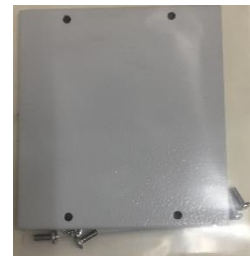

Figure 14
3. Attach the cover (**Figure 14**) to the pole's hand hole (**Figure 12**), using the supplied screws.